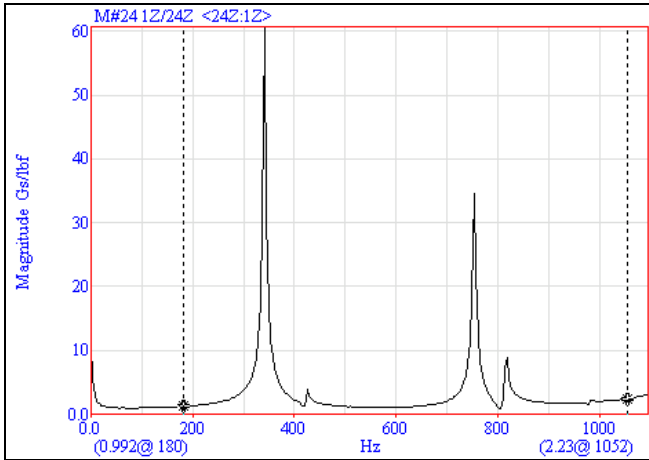

Figure 10. Band Cursors @ (180, 1052) Hz.
- Drag the band cursors to enclose a band of approximately (180, 1050) Hz, as shown in Figure 10.